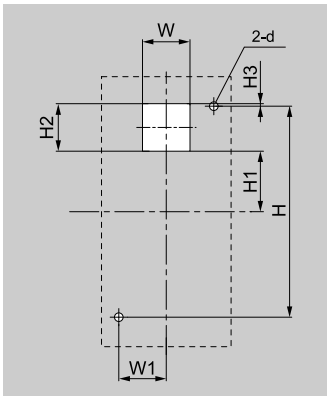

Figure 2.11 Panel Cut-Out Dimensions to Attach Outside of Control Panel
- 1. Use the panel cut-out dimensions in Figure 2.11 and Table 2.9 to cut an opening in the control panel for the keypad.